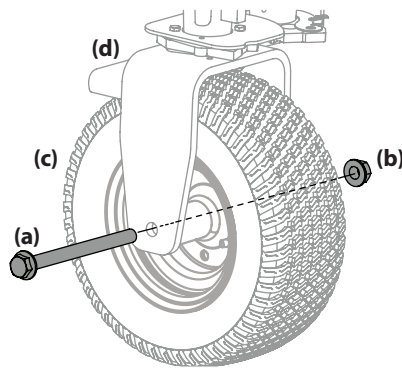

Figure 31
1. Remove the hex screw (a) and flange lock nut (b) that secures the front wheel (c) to the yoke assembly (d). See Figure 31.